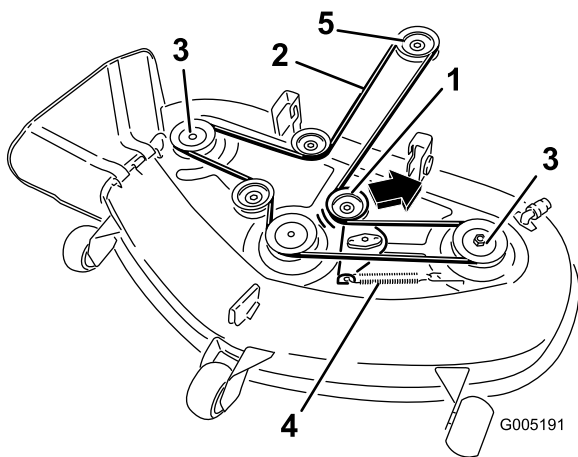

Figure 59
5. Pull the idler pulley in the direction shown in Figure 59 and roll the belt off of the pulleys.
- Route the new belt around the engine pulley and mower pulleys (Figure 59).
- Pull the idler pulley in the direction shown in Figure 59 and route the belt onto the idler pulley (Figure 59).